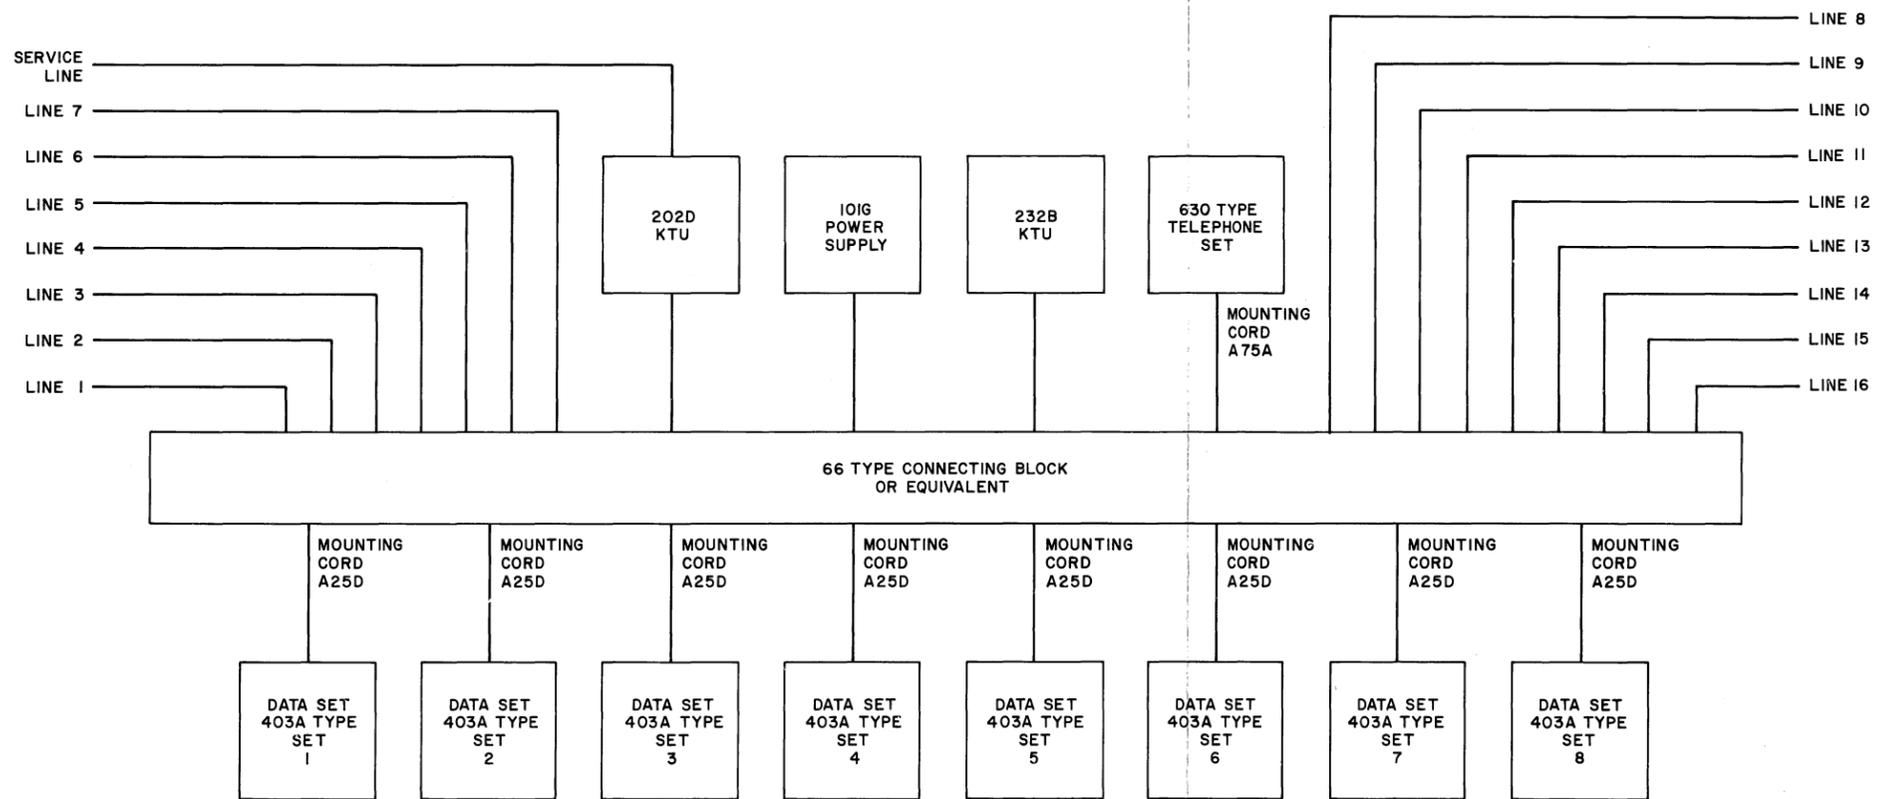

Fig. 5—Block Diagram of a Data Installation Using a Single 18-Button 630-Type Telephone Set For Intercept Only For 16 Data Lines
Note: Fig. 5 and 6 together make a complete installation. It is necessary to have both intercept and maintenance capabilities, regardless whether these functions are provided by single call director or by several call directors.
3.11 Fig. 5 illustrates a data station using 8 data sets (16 receivers) in conjunction with one 630-type telephone set for intercept only of 16 data lines. Table E illustrates the type of connections necessary for this type of installation.